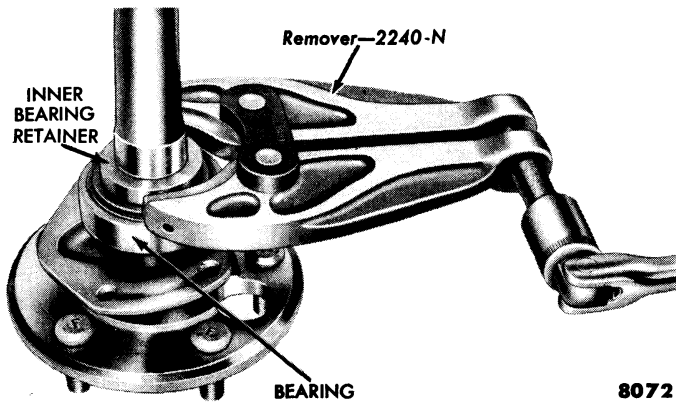
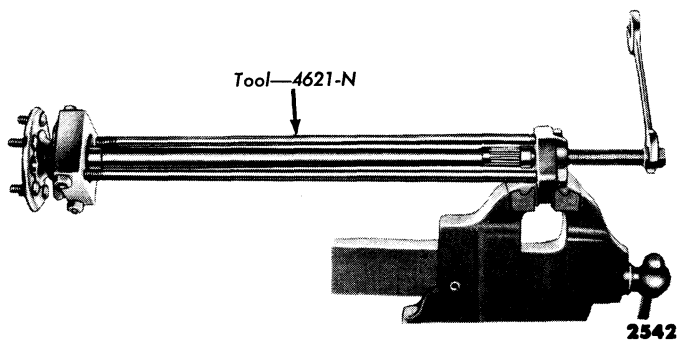

Fig. 39—Bearing Retainer Ring Removal
Fig. 40—Rear Wheel Bearing Removal
(2) **REPLACEMENT.** Remove the axle shaft. Loosen the axle shaft bearing retainer ring with the tool shown in fig. 39. If this tool is not available, loosen the ring with a chisel, being careful not to damage the axle shaft during the operation. Remove the bearing retainer ring from the axle shaft, then remove the wheel bearing with a tool which will not damage the axle shaft as the tool shown in fig. 40.